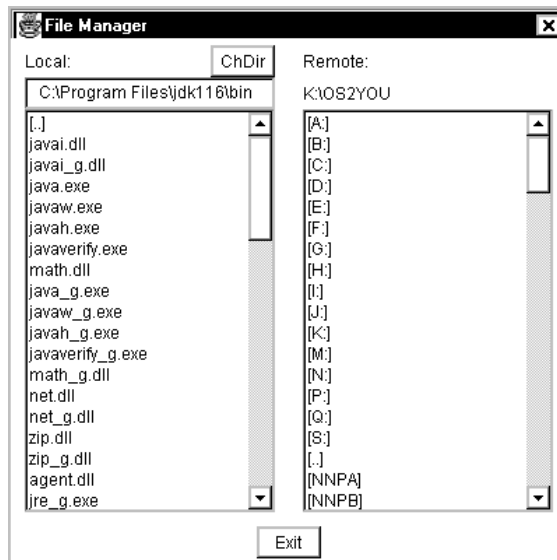

Figure 3-6. Console for Java File Manager Window
- Step 1. In Console for Java, select **Actions**→**File Manager**. This displays the **File Manager** window. See Figure 3-6.